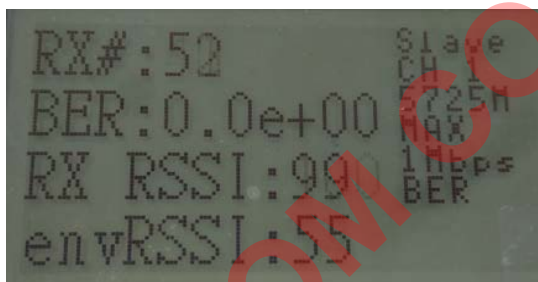

Fig 28
3. After successful linking to Master, display RX# / BER / RX RSSI / envRSSI on LCD monitor as shown in Fig 28.